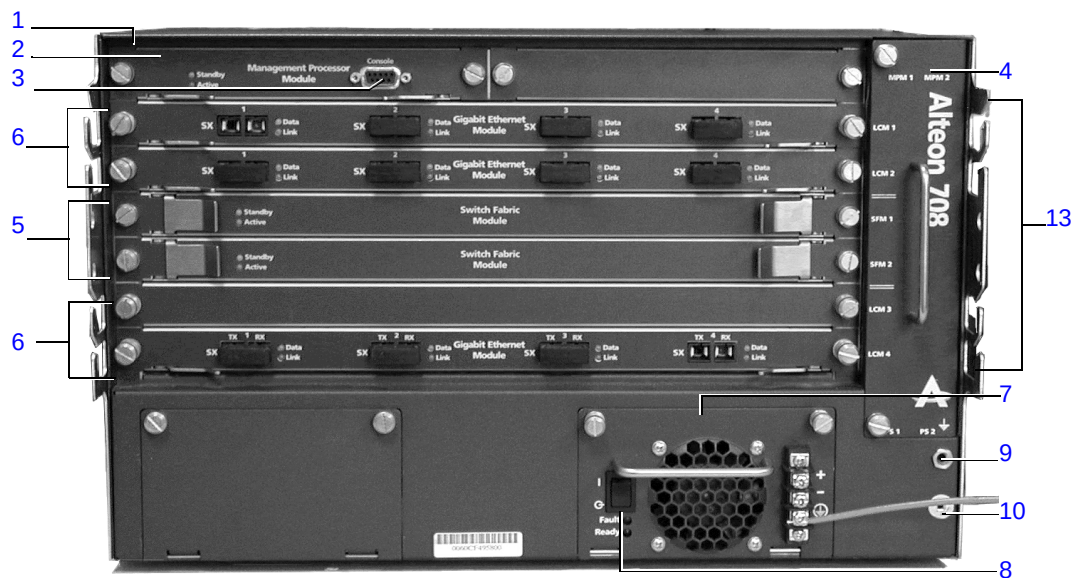
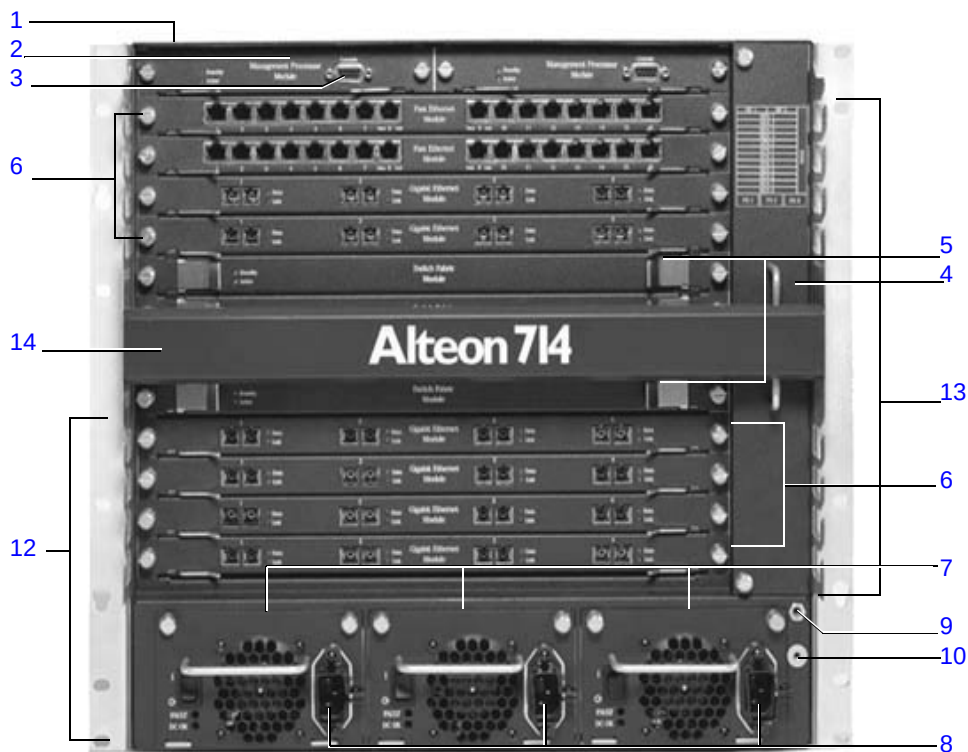

Figure 3 Alteon 708 Front Panel
Figure 4 Alteon 714 Front Panel
Figure 3 shows the Alteon 708 switch with the optional DC power supply.
- Installation or removal of modules must be performed in a static-free environment. Use the chassis grounding port to establish proper ground connection for the system, and use the ESD banana jack to connect your personal anti-static device (such as a wrist-strap). See Figure 3 on page 20 and Figure 4 on page 21 for the location of these ports. Use of anti-static mats is also recommended.
Carefully unpack the chassis and accessories. Figure 3 on page 20 and Figure 4 on page 21 will help you identify the modules. Check the parts you received against the parts noted on your packing list. A standard Alteon 700 series switch is shipped with the following modules: